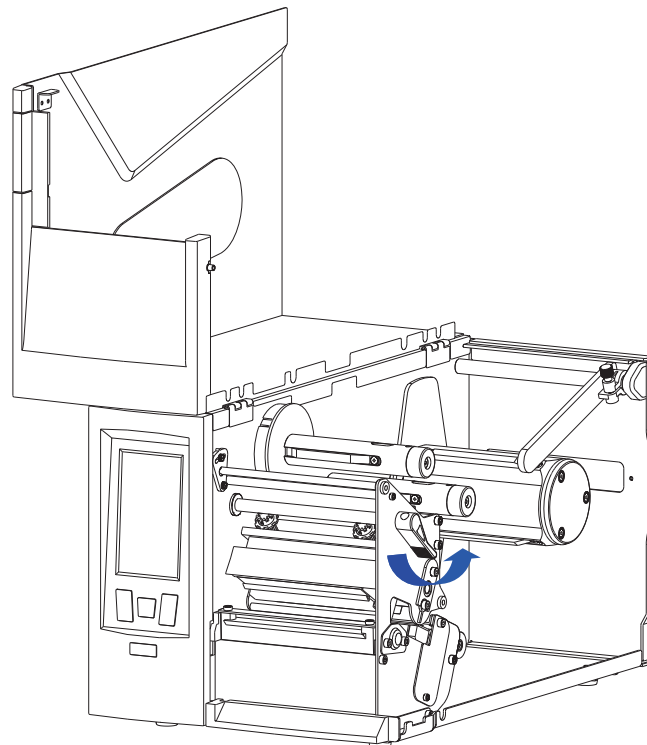
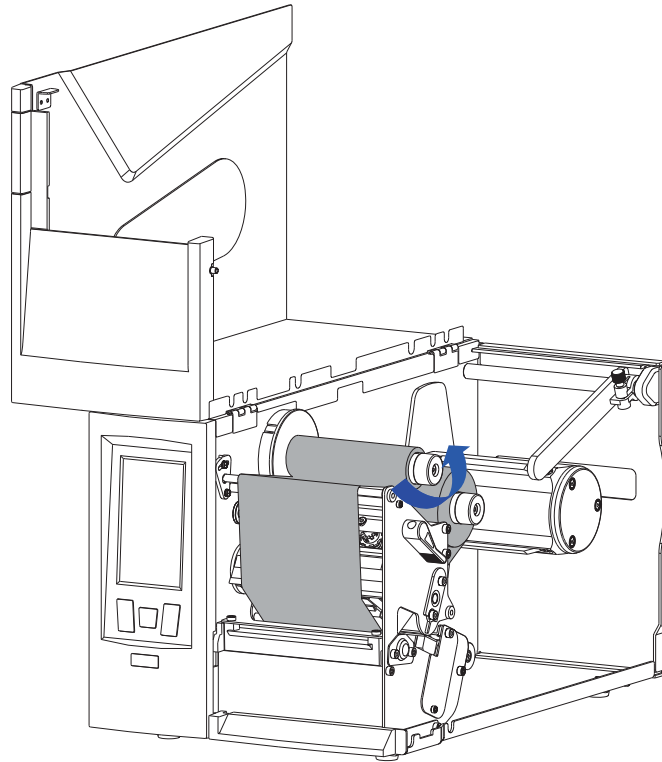

Figure 2-8 Open the Printhead
Figure 2-13 Ribbon Roll Loaded
To load the ribbon, refer to Figure 2-8 through Figure 2-13 and follow the steps below:
2. Turn the Lever counter clockwise to open the Printhead. See Figure 2-8.
7. Slide the Ribbon Take-up Roll on the Ribbon Take-up Spindle and push it firmly against the Stop Plate. Turn the Take-up Spindle until the ribbon is tightly wound. See Figure 2-13.